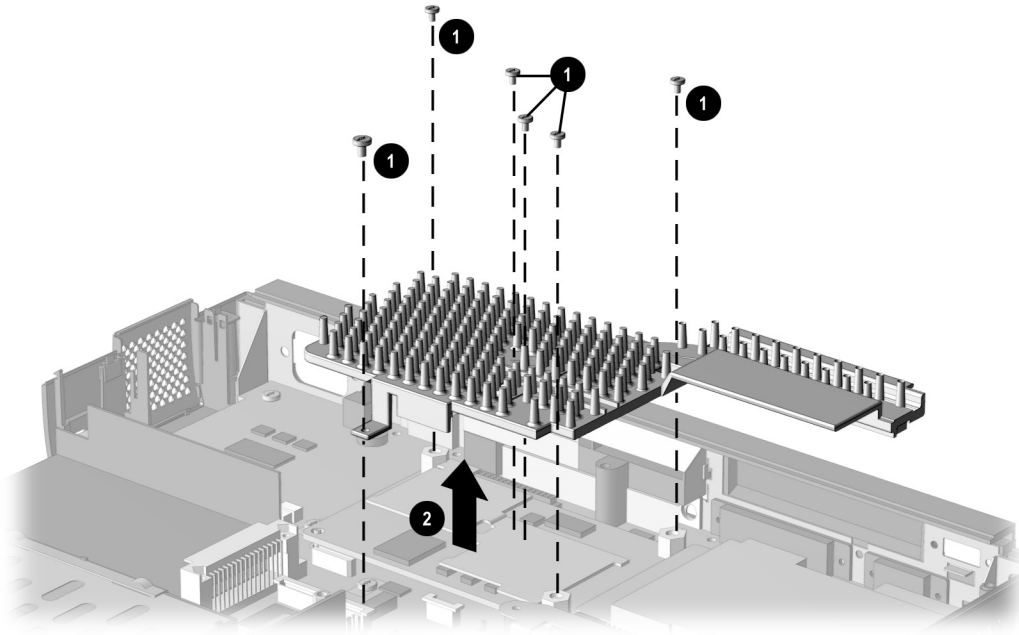

Figure 5-53. Removing the Heat Sink Screws
20. Remove the six screws that secure the heat sink to the system board ❶ (Figure 5-53).
21. Remove the heat sink ❷.